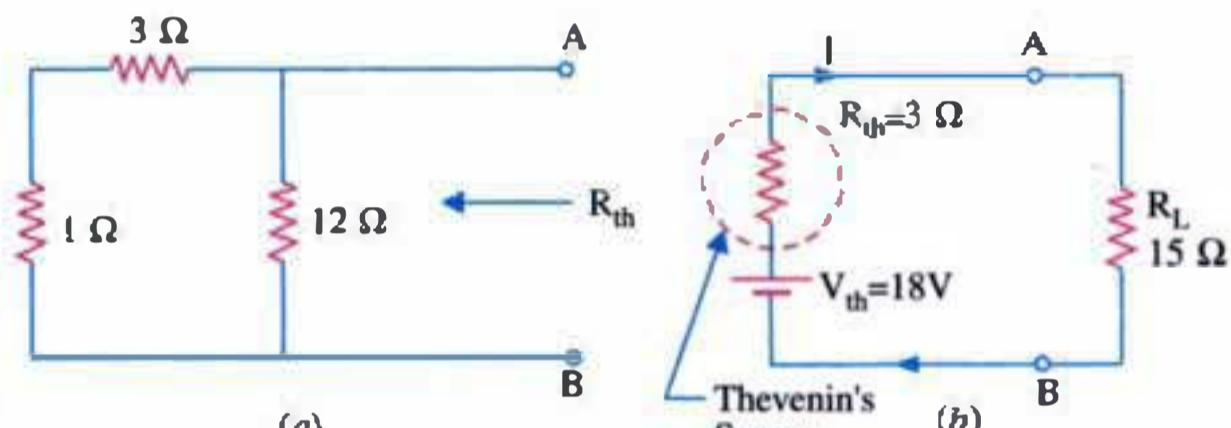

Fig. 4.9
**3. Third Step.** Now, remove the 24 V battery leaving behind its internal resistance of  $1\ \Omega$  as shown in Fig. 4.9 (a).
Consequently, as seen from points A and B, the given network can be reduced to a single voltage source (called Thevenin's source) of 18 V whose internal resistance  $R_{th}$  equals  $3\ \Omega$  [Fig. 4.9 (b)].
**4. Fourth step.** Finally, connect back the load resistor to the terminals A and B thereby giving a simple series circuit shown in Fig. 4.9 (b). Finding current I through  $R_L$  should be no problem now.